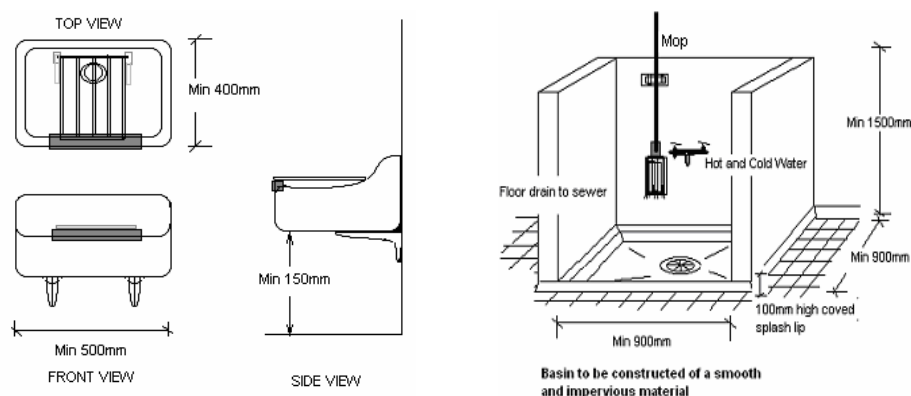

Figure 9. Example of a cleaner's sink
- Disposal of waste water generated from mop buckets, cleaning mops, and other cleaning activities should be directed into a cleaner's sink or other approved facility, (refer **Figure 9** for an example of a cleaner's sink),